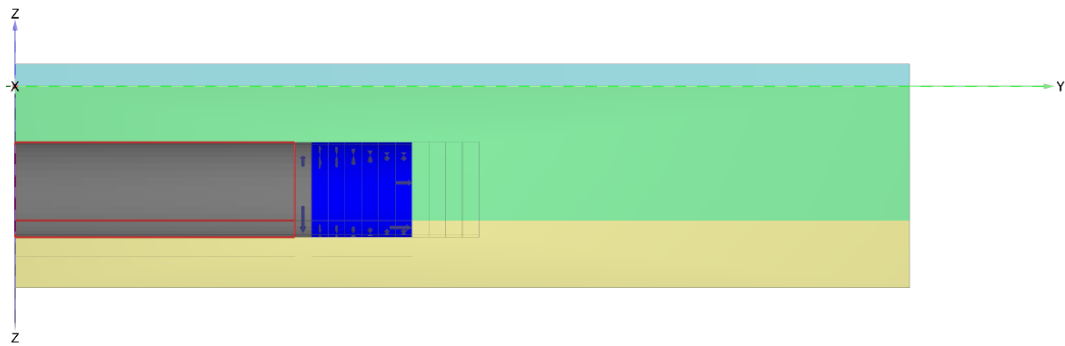

Figure 5-27: Deactivated soil volumes corresponding to final lining(0 m - 25 m), wireframe view
- a. In the drawing area select the soil volumes representing the final lining of the first 25 m of tunnel and deactivate them (Figure 5-27 \(p. 107\))